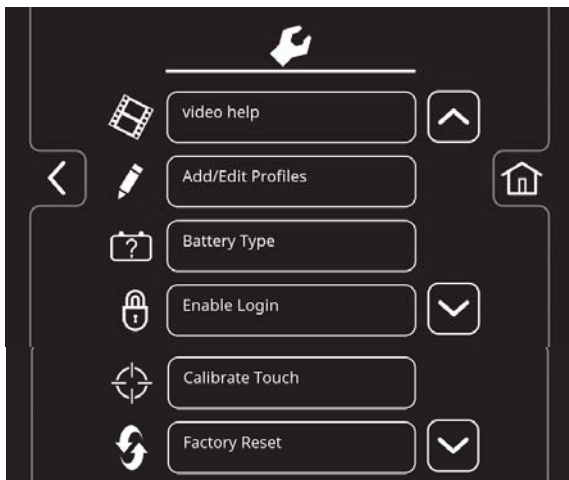

FIG. 168
- The machine's setting screen provides access to the following menu (Figure 168).